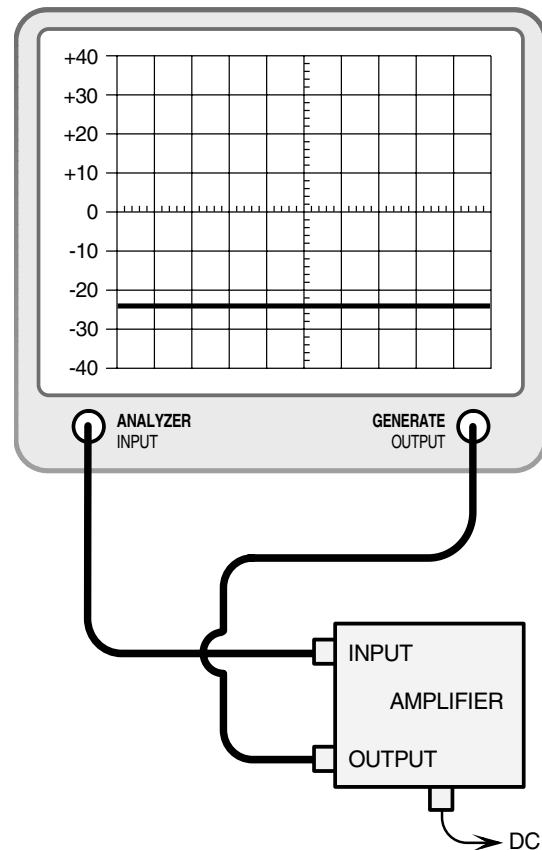

Figure 24: Measuring reverse isolation.
- 13) Connect the equipment as shown in **Figure 24** but connect the test leads together through a female barrel connector and repeat the zero reference procedure of step 2.
- 14) Using the figure 24 connection, verify that the reverse isolation is at least -20 to -22 dB. This value will occur normally as the result of proper tuning.